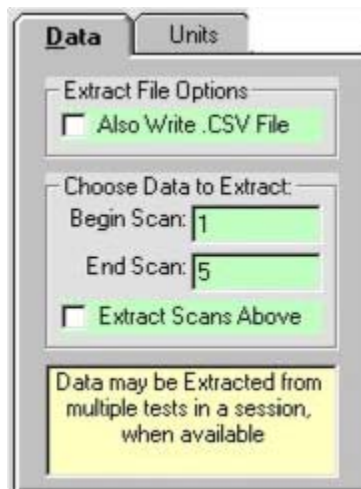

Figure 3.20
- The **Data** tab allows control of which AutoLog data points Data Scout Advanced will extract (figure 3.20). By default the fields on this tab will be set to extract all data points (first through last). If a subset of the data is required, the **Begin Scan** and/or **End Scan** data points may be changed to reflect the subset to be extracted. Click the **Extract Scans Above** check box to extract the indicated data sets.
The .csv format option also appears in the *Data* tab shown in figure 3.20 of the **Extract** window.